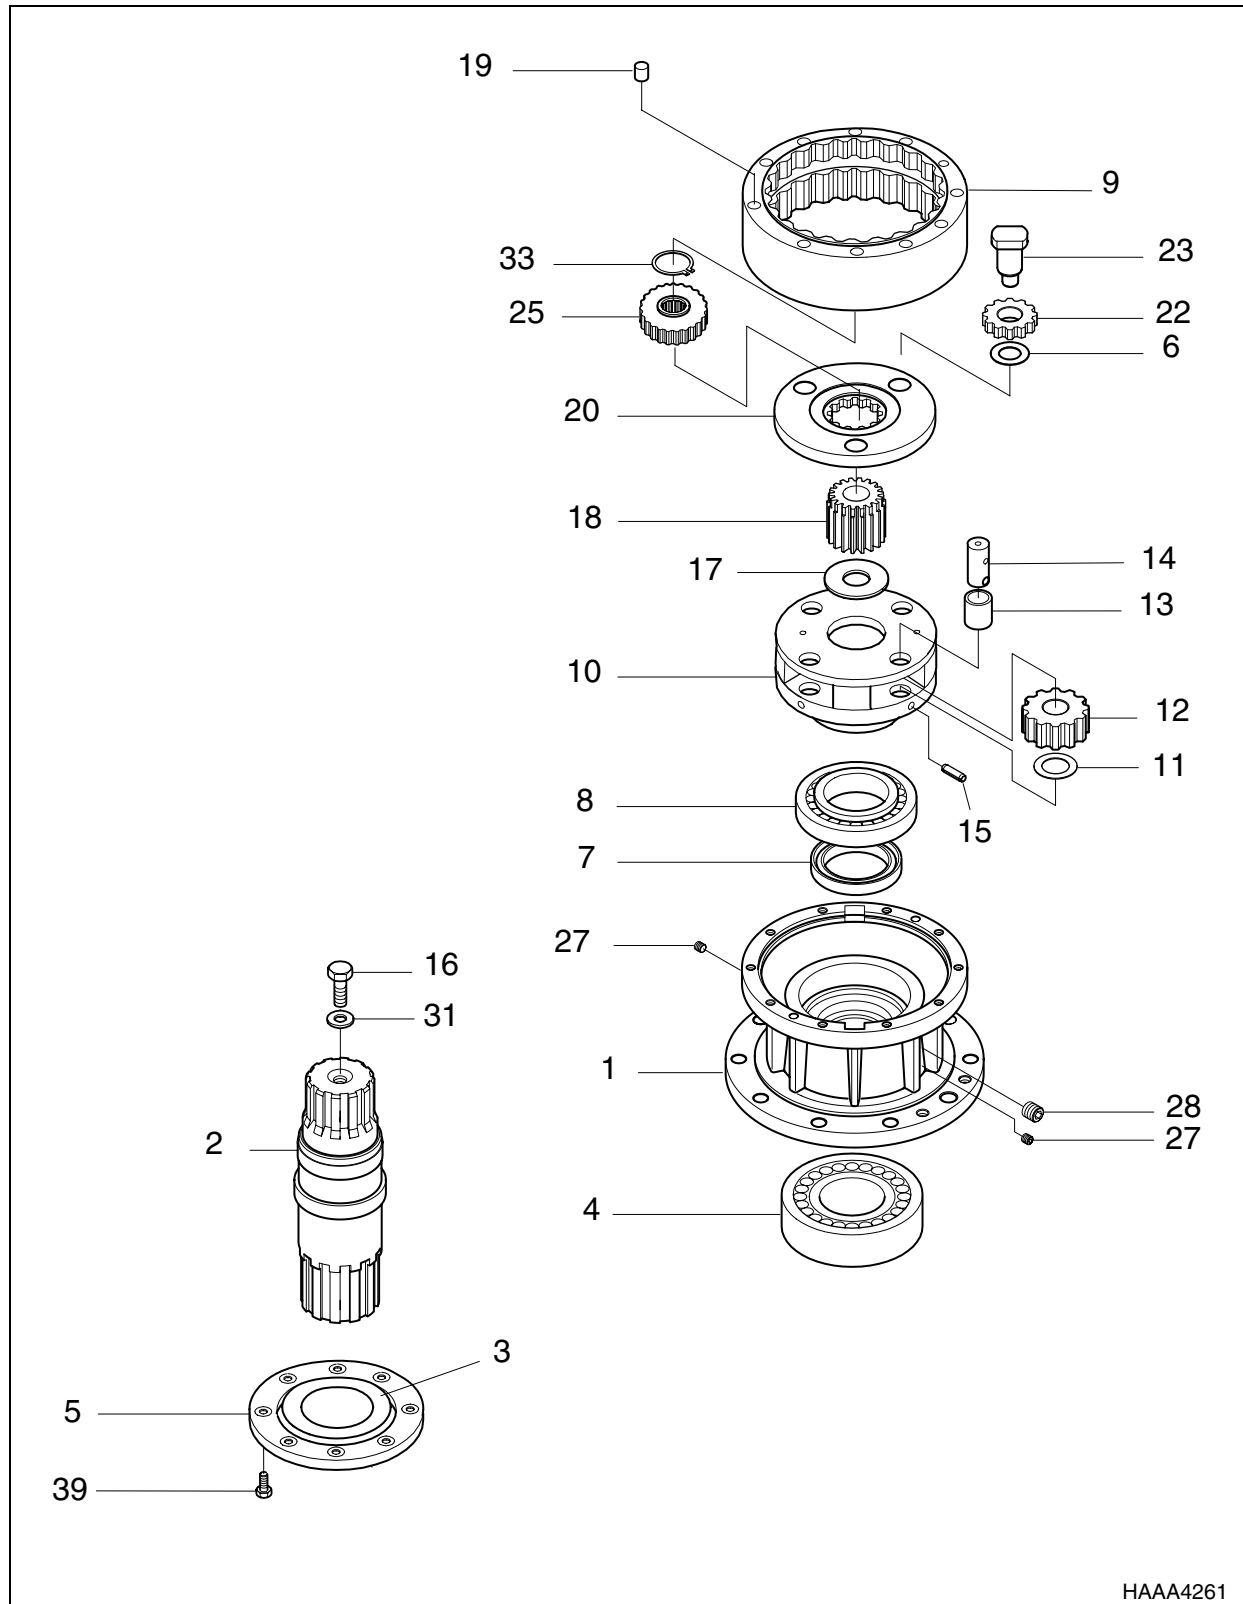
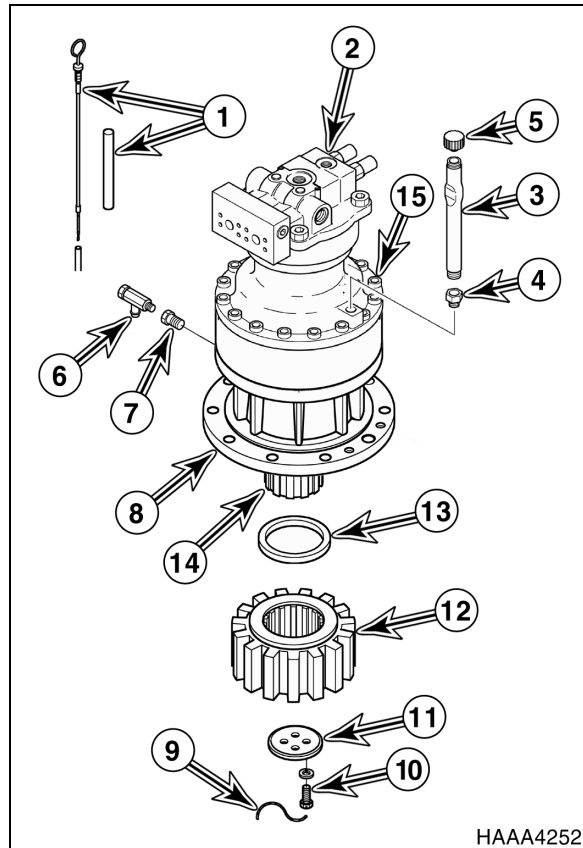

Figure 11
Figure 15
1. Install two plugs (27, Figure 11) and plug (28) in front casing (1), if replacement was necessary.
2. Press oil seal (7, Figure 11) into casing (1).
3. Press roller bearing (8, Figure 11) into casing (1).
4. Press roller bearing (4, Figure 11) on drive shaft (2).
5. Press drive shaft (2, Figure 11) and roller bearing (4) into casing (1).
NOTE: Press on outer race of bearing (4, Figure 11) and pinion gear end of shaft (2) at the same time. Be careful not to damage threaded holes in end of shaft.
NOTE: Make sure that bearing (8, Figure 11) remains seated on shoulder.
6. Hand pack bearing (4, Figure 11) and grease cavity with grease. Rotate drive shaft to ensure that bearing is coated with grease.
7. Install plate (3, Figure 11) in cover plate (5).
8. Secure cover plate (5, Figure 11) to casing (1) with eight bolts (39, Figure 11).
9. Assemble No. 2 carrier (10, Figure 11).
- A. Position No. 2 bushing (13, Figure 11) in No. 2 planet gear (12). Position gear and bushing, No. 2 thrust washer (11) and No. 2 pin (14) in No.2 carrier (10).
- B. Align spring pin hole in No. 2 pin (14, Figure 11) with hole in No. 2 carrier (10).
NOTE: Figure 12, shows how end of holes in pin (14, Figure 11) should be turned, in relation to the drive shaft.
- C. Press spring pin (15, Figure 11) into No. 2 carrier (10) and No. 2 pin (14).
18. Align match marks and position swing motor (2, Figure 15) on gearbox (8). Install twelve socket head bolts (15) to secure swing motor to gearbox.
NOTE: Coat mating faces of swing motor (2, Figure 15) and ring gear (3, Figure 11) with Loctite #609.
19. Coat I.D. of spacer ring (13, Figure 15) with Loctite #609. Slide spacer into position on drive shaft (14).
20. Install lock plate (11, Figure 15), four lock washers and drilled head bolts (10) on drive shaft (14).
21. Use lock wire (9, Figure 15) to secure drilled head bolts (10) into position.
22. Install reducer (7, Figure 15) and drain valve (6, Figure 15) in gearbox (8).
23. Install breather (5, Figure 15) on breather pipe (3) if remove during disassembly.
24. Install adaptor (4, Figure 15) and breather pipe (3, Figure 15) in swing motor (2).
25. Install dipstick tube (1, Figure 15) and oil level dipstick on swing motor (2).